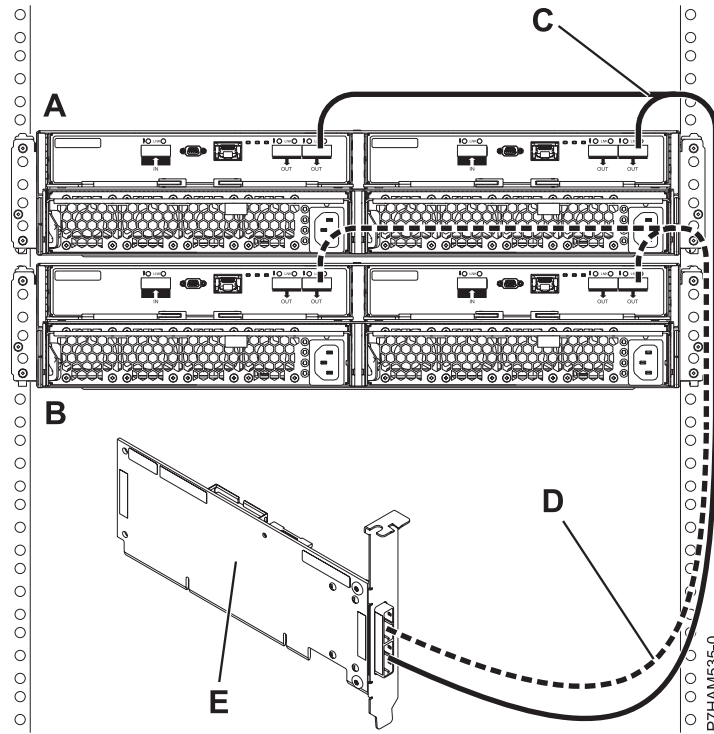

Figure 30. Mode 1 connection of two 5887 disk drive enclosures by using YO cables to a single SAS adapter
- j. Perform the mode 1 connection of two 5887 disk drive enclosures (**A and B**) by using YO cables (**C and D**) to a single SAS adapter (**E**) as shown in Figure 30 on page 27.